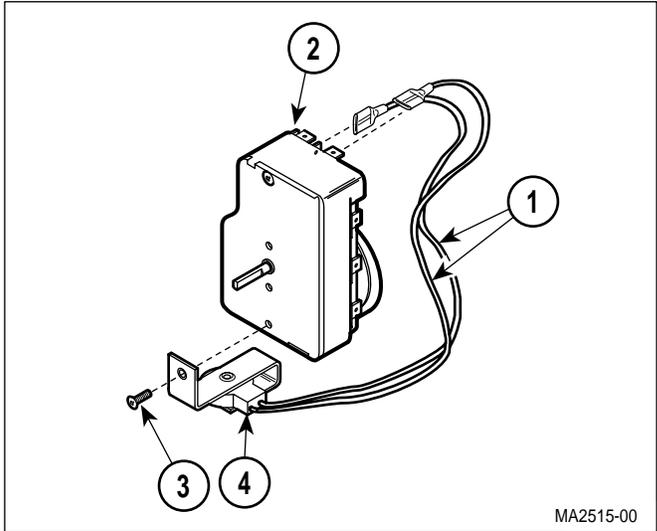

Figure 4-4. Timer Buzzer Removal / Installation
- (1) Remove cover assembly (Refer to para 4.2).
- (2) Remove timer assembly (Refer to para 4.3).
- (3) Tag and disconnect two wires (1, Figure 4-4) from timer assembly (2).
- (4) Remove screw (3) and timer buzzer (4) from timer assembly (2).